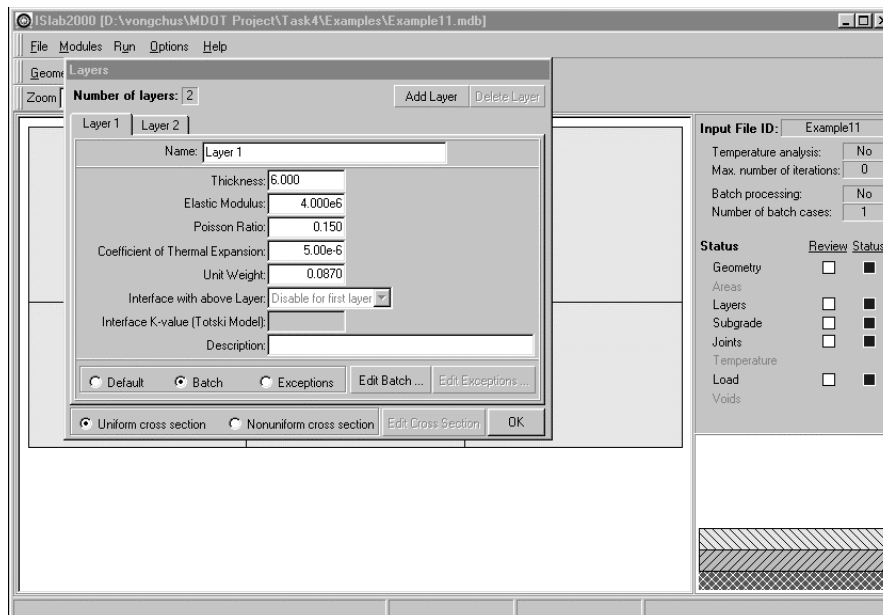

Figure E11-2: Edit Inputs for the Layers Module
(see Figures E11-2 and E11-3)
- Step 5: On the layers panel, select the **Layer 1** tab, select **Batch**, and then click **Edit Batch** to open the layer 1 properties panel (see Figure E11-2).